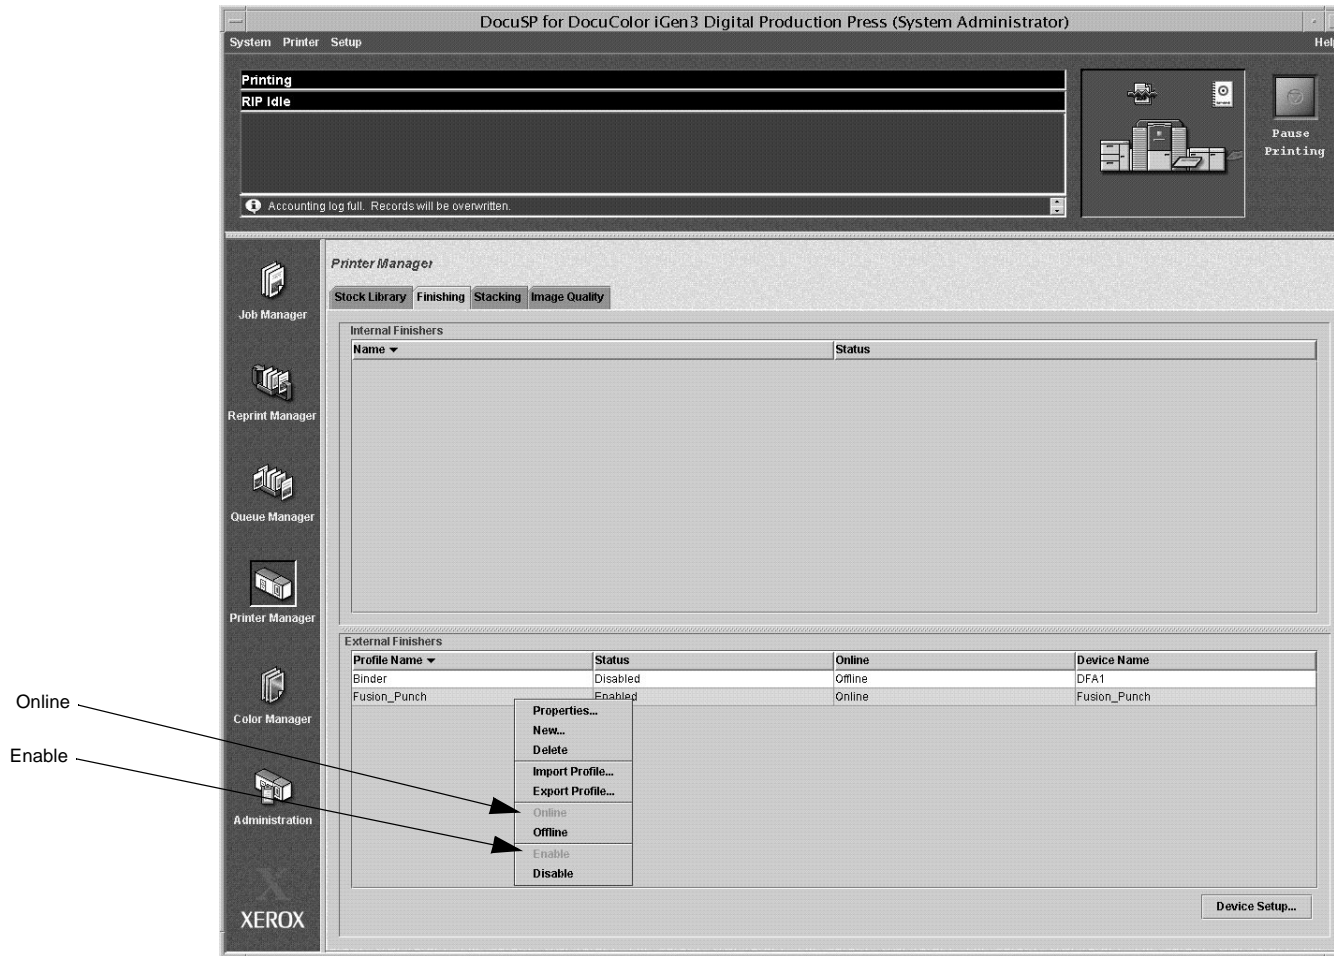

Figure 6-42 The Finishing Tab Screen
The **Finisher Profile** Window will close and then you will be back at the Finishing tab screen. The new profile you setup will be displayed under the **External Finishers** box at the bottom of the **Finishing Tab Screen**, with the **Status** set to **Disabled** and **Online** set to **Offline**, as shown in Figure 6-42.
8. Right click the profile you setup and the select **Online** from the drop down list, as shown in Figure 6-42.
9. Right click the profile again, but this time select **Enable** from the drop down list, as shown in Figure 6-42.